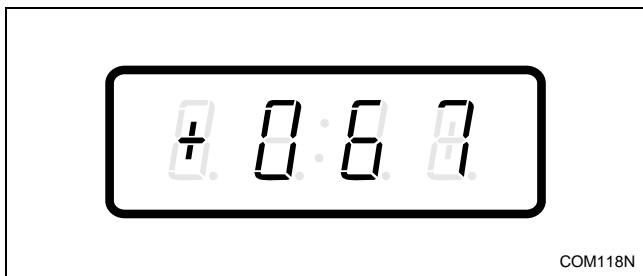

Figure 85
- Press the DELICATES (+) or the COLD (-) keypad to scroll through the programmable options until “+067” appears in the VFD. Refer to *Figure 85*.